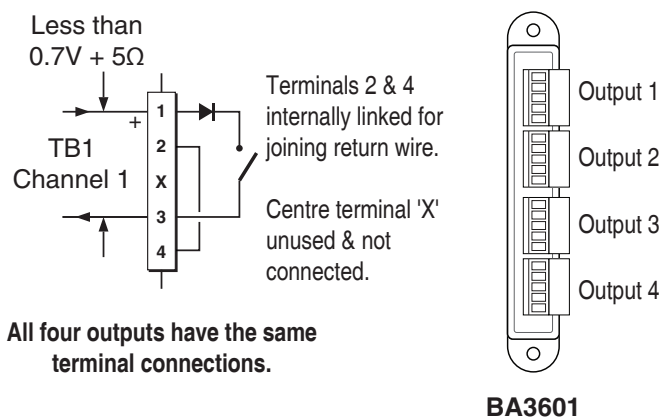

Fig 3 Output terminals
3. Connect field wiring to each of the four removable output terminal blocks. All the outputs are identical as shown in Fig 3. Each of the four outputs is a separate intrinsically safe circuit and field wiring should comply with segregation requirements specified in IEC / EN 60079-14. If a multicore cable is used for the outputs, it should have Type A or B construction as specified in Clause 16.2.2.7 of IEC / EN 60079-14. Wiring should be supported to avoid damaging the module's terminals.